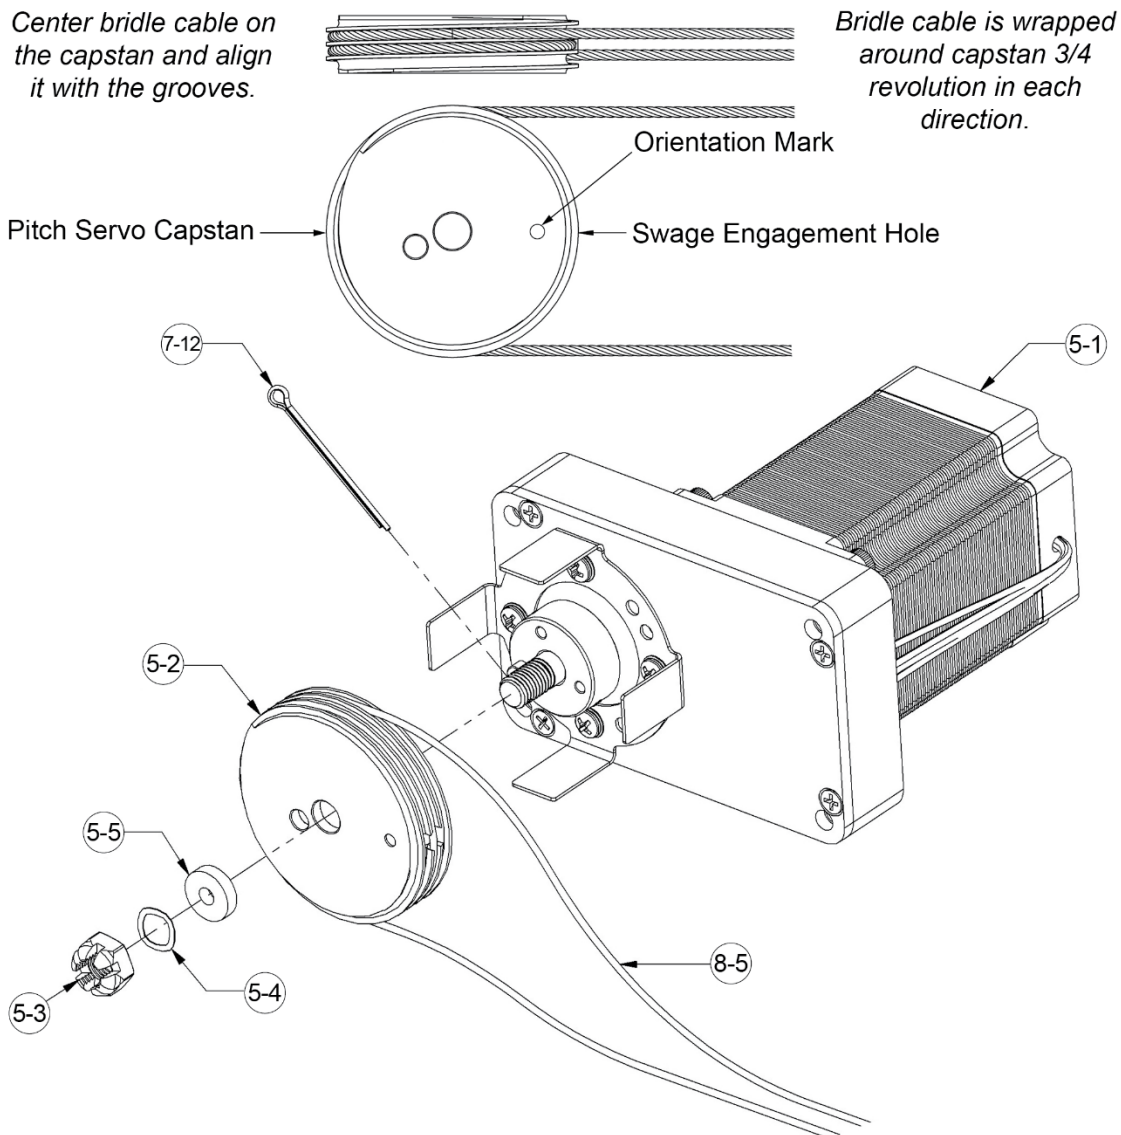

Figure 26: Wrapping Bridle Cable and Attaching Capstan to Pitch Servo
4. Insert bridle cable's swage into capstan's swage engagement hole, and then wrap bridle cable '3/4' revolution in each direction around capstan, as shown in Figure 26.
The swage engagement hole must be in the 3 'o' clock position, and the orientation mark must face away from the servo, as shown in Figure 26.
5. Temporarily attach capstan pitch servo (see Figure 26). Cotter pin not needed at this time.